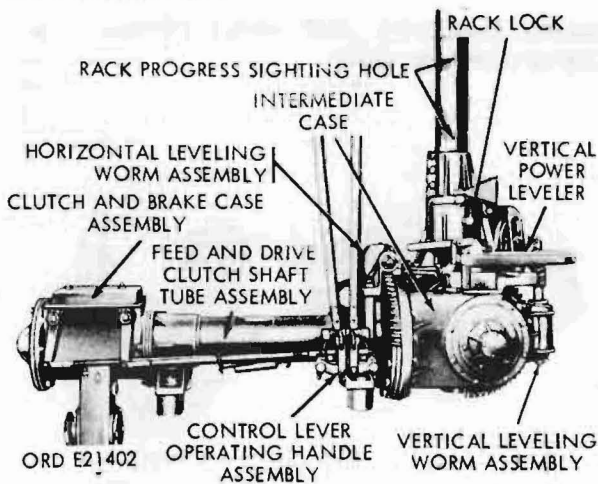

Figure 156. Earth boring machine model HD - left side view
- (2) Fastened to the boring machine base, the feed and drive clutch shaft tube assembly (fig. 156) supports the major components of the boring machine. The clutch and brake case assembly, connected on the front of the feed and drive clutch shaft tube assembly, contains the input shaft assembly and the clutch and brake assemblies for both the feed and drive. The feed and drive clutch shaft tube, containing the feed and drive clutch shafts, also serves as a mount for the control lever operating handle assembly and horizontal leveling worm assembly. Connected to the rear of the tube is the intermediate
(g) Do not run the auger rack out of the derrick tube so that the auger rack guide will be below the bottom rack progress-sighting hole (fig. 156) in tube.